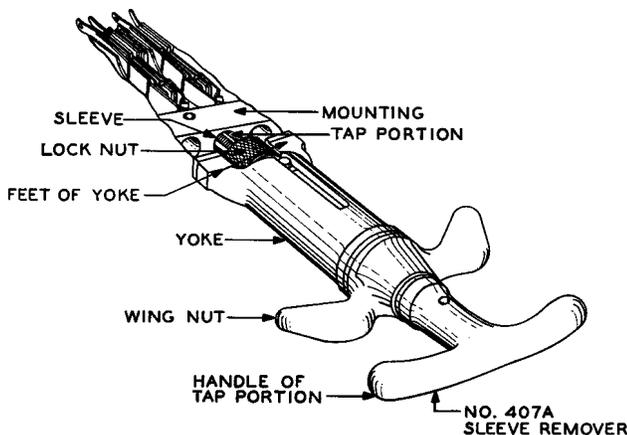

Fig. 3 – Method of Tapping Sleeve With 407A Sleeve Remover
3.06 Before using the 407A sleeve remover, make sure that its entire tap portion extends beyond the feet of the yoke and the knurled locknut. Screw the tap portion about two or three turns into the sleeve slowly but steadily as shown in Fig. 3 until there is considerable resistance to turning. Screw the knurled locknut tightly against the face of the sleeve and lock the tool to the sleeve by holding the locknut firmly while turning the tap portion slightly in a clockwise direction. With a rotary motion of the tool, rock the sleeve back and forth through a small arc (20 degrees to 30 degrees) until the sleeve is free of the pin. This is indicated by the sleeve turning in the mounting. On the 49-type jack, continue rocking the sleeve until the sleeve terminal is broken off. This is indicated by the free movement of the sleeve in the mounting. On the 141 and similar jacks, exercise care in freeing the sleeve of the pin not to break the sleeve from the terminal.